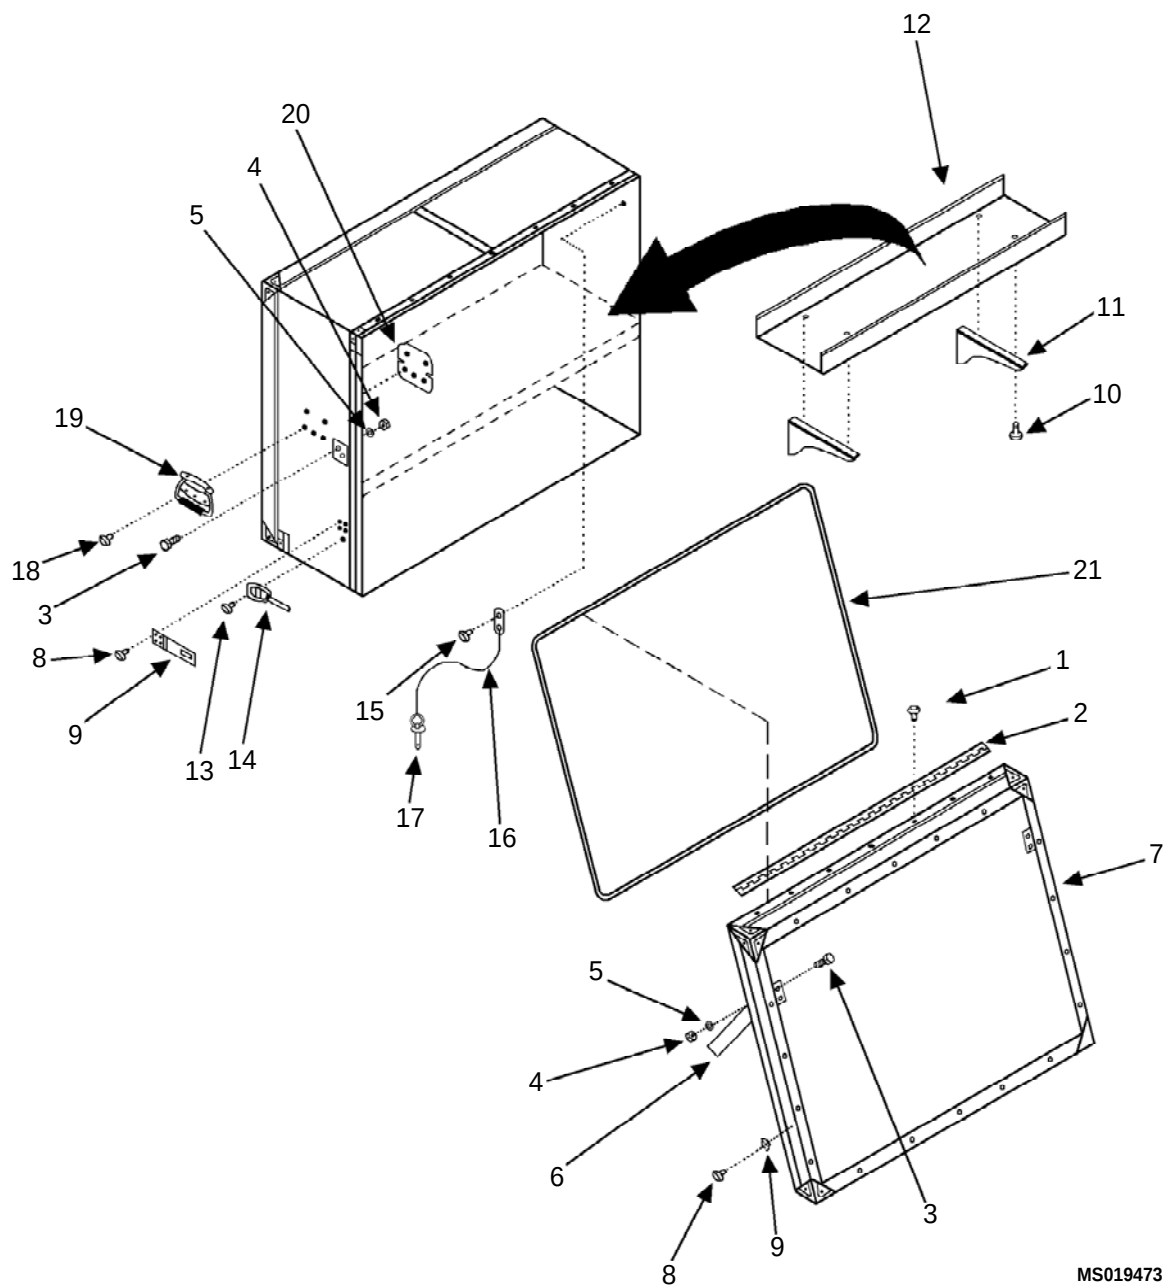

Figure 1. Assembly Side Box Right Hand
1. Remove 14 rivets (1) and hinge (2). (Figure 1)
2. Remove 8 bolts (3), 8 nuts (4), 8 lock washers (5), 2 door stays (6) and door (7).
3. Remove 7 rivets (8) and hasp and staple (9).
4. Remove two shelves from box. Remove 8 rivets (10) and 4 shelf brackets (11) from two shelves (12).
5. Remove 14 rivets (13) and 2 latches (14).
6. Remove rivet (15), lanyard (16) and locking pin (17).
7. Remove 10 rivets (18) and 2 handles (19), with 2 backing plates (20).
8. Remove door seal (21).